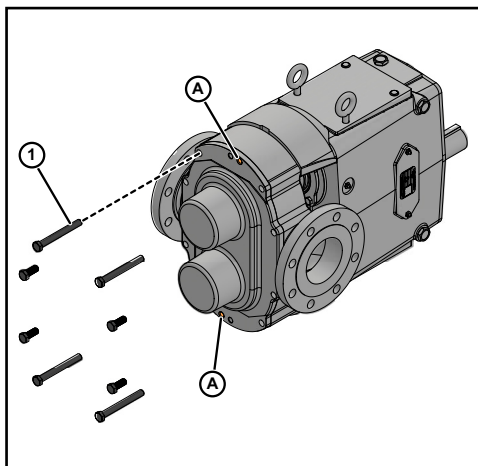

Figure 100 - Install cover
5. Mount cover over the rotor hubs and body dowels. Secure with eight cap screws (1), as shown in Figure 100. (See page 60 for relief cover installation and adjustment.).